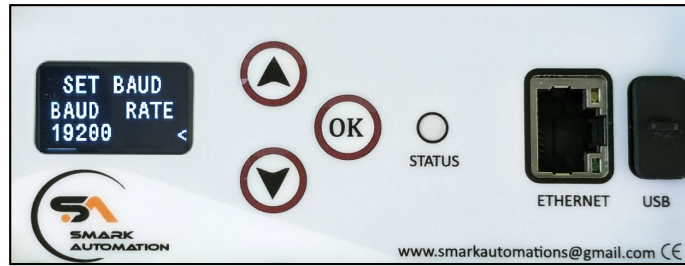

Figure 28: Configuring Baud Rate for XT COM CONF
- 2. Set Scan Time (ms):** Set the Extension Device Scan Interval, which determines how frequently the main device i.e. SMDAS will check for updates or collect data from connected Extension Devices. The interval can be set between 1000 milliseconds (1 second) and 10000 milliseconds (10 seconds), with the default setting being 5000 milliseconds (5 seconds). Press OK to set the selected scan time and the user will then be prompted to set the Baud rate, as shown in Fig 28.